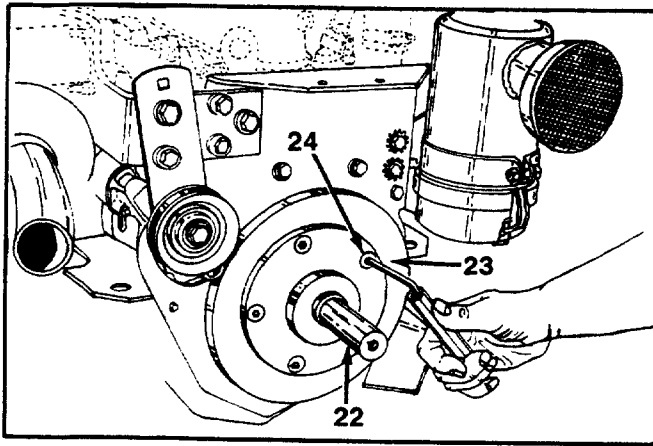

FIGURE 16.
15. Remove the five screws holding the stub shaft to fly wheel. See figure 16. Note an allen wrench with a piece of pipe will be required to break screws loose. See figure 16.